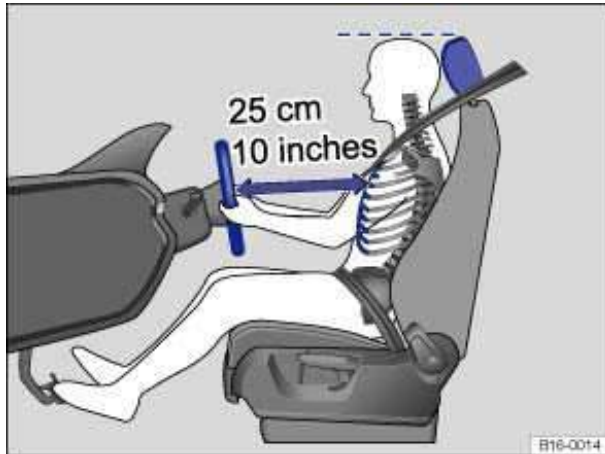
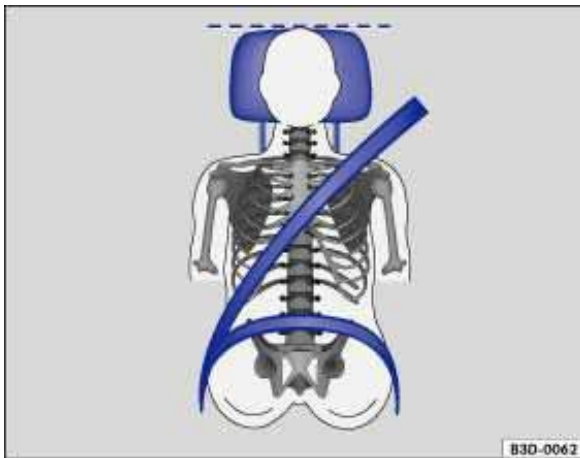

Fig. 31 The driver should never sit closer than 10 inches (25 cm) of the steering wheel.
Fig. 32 Proper safety belt positioning and head restraint adjustment.
- Adjust head restraints so that the upper edge of the head restraint is at least at eye level or higher. Position the back of your head as close as possible to the head restraint ⇒ fig. 31 and ⇒ fig. 32.
- Adjust the steering wheel so that there are at least 10 inches (25 cm) between the steering wheel and your breast bone ⇒ fig. 31. When adjusting the proper distance to the steering wheel, grasp the top of the steering wheel with your elbows slightly bent.